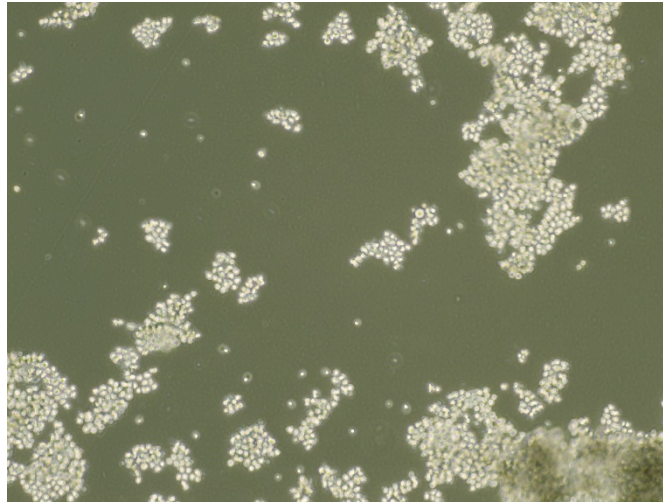

Figure 9: Image of detached HELA cells during trypsinization. 4x magnification.
- Verify under microscope that the cells have detached (see **Figure 9**). If not detached continue the incubation with trypsin for a few more minutes.